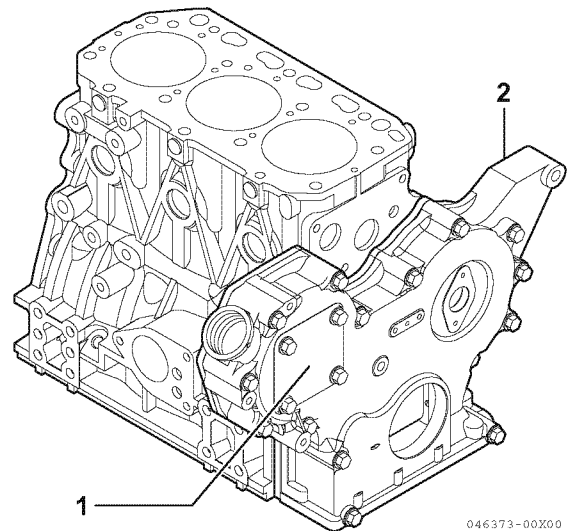

Figure 7-9
13. Remove the fuel injection pump drive gear cover (1, **Figure 7-9**) from the gear case cover (2, **Figure 7-9**).